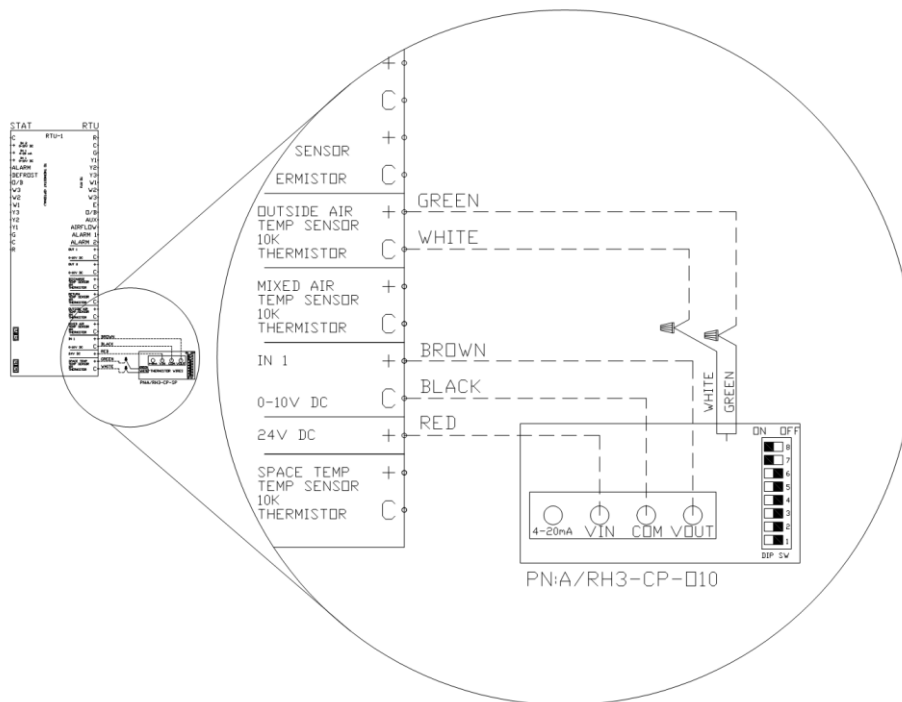

Figure 16. RTULink - Outside Air Temp and RH
The sensor has a bank of eight dip switches that control the range of the output voltage of the humidity sensor. Switches seven (7) and eight (8) need to be turned ON and the rest should remain OFF. These dip switches can be seen in the sensor detail in Figure 16.
Figure 16 is a wiring diagram of an outside air temperature and humidity sensor connecting to the “RTU” Input 1 on the RTULink.